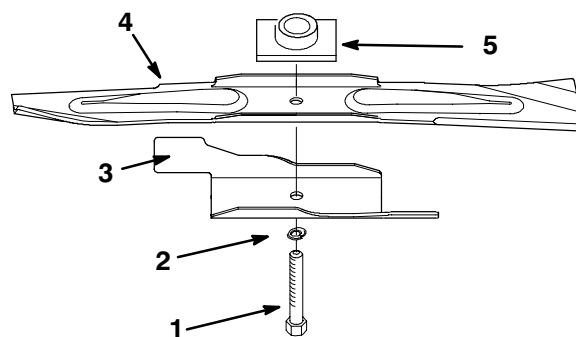

Figure 22
- Remove the blade bolt, the lock washer, the blade accelerator, and the blade (Fig. 22).
1. Position the blade onto the spindle and the blade driver, with the curved blade tips pointing toward the lawn mower and the blade driver nesting in the recess of the blade (Fig. 22).
2. Install the accelerator, the lock washer, and the blade bolt (Fig. 22).